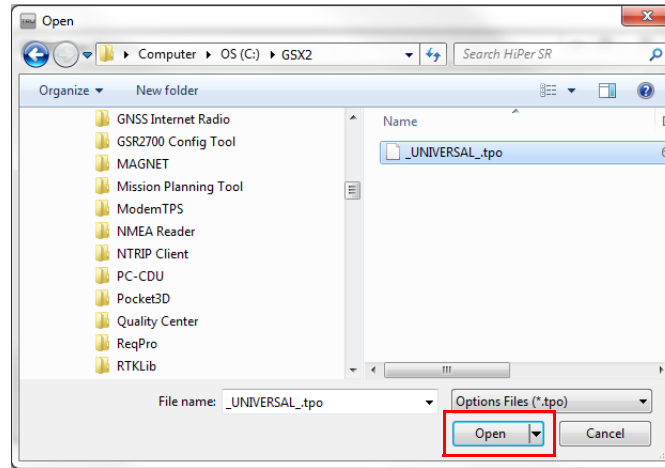

Figure 11: Load OAF
- Navigate to the location of the new Option Authorization File (Figure 11).
- Select the appropriate file, and click **Open** (Figure 11).